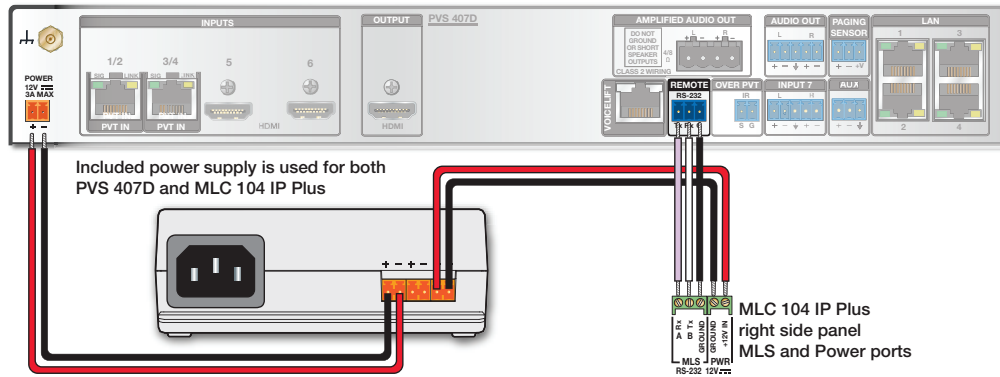

Figure 3. Power Supply Connections to PVS 407D and MLC 104 IP Plus
- M DC power connector** — When all other cables have been connected, plug the cable with the orange captive screw connector (provided with the power supply) from the 12 VDC power source into this receptacle (see figure 3) and apply power. The front panel power LED and an input LED illuminates when the switcher is receiving power.